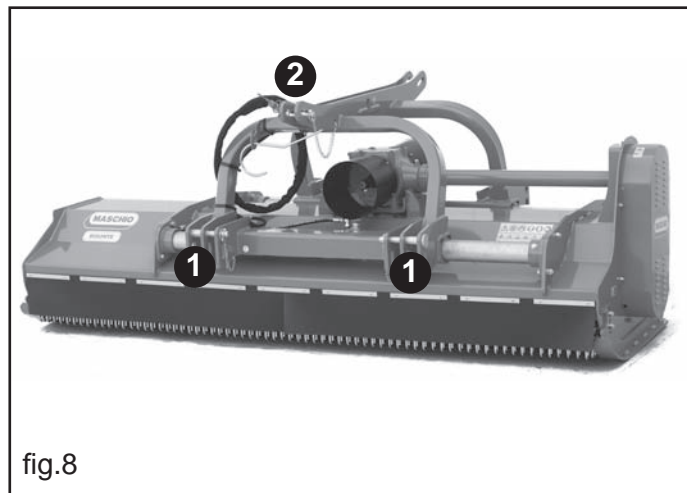
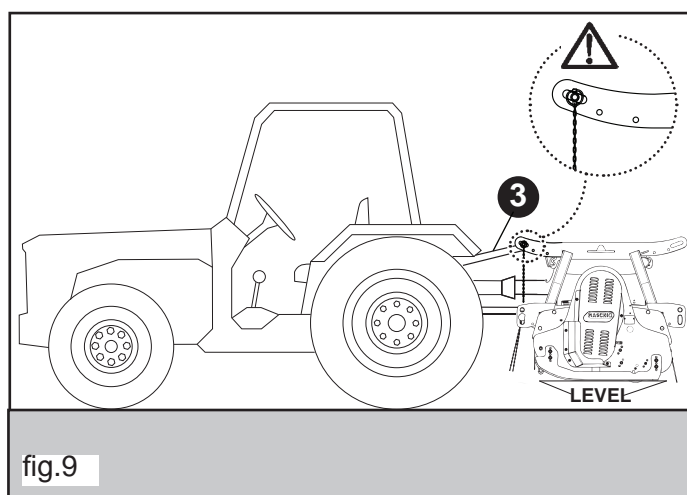

fig.8
fig.9
- 1) Hook the lifter bars onto the pins provided (1, fig.8)
- 2) Connect the third upper point (2, fig.8); the pin will be blocked with the appropriate split pin; use the adjusting tie rod (3, fig.9) to keep the machine perpendicular to the ground (fig.9). To use the machine in the correct way, the rod of the tractor's top link must be regulated so that the pin is in the center of the slot when the machine is perfectly horizontal.
- 2) Connect the third upper point (2, fig.8); the pin will be blocked with the appropriate split pin; use the adjusting tie rod (3, fig.11) to keep the machine perpendicular to the ground (fig.12).